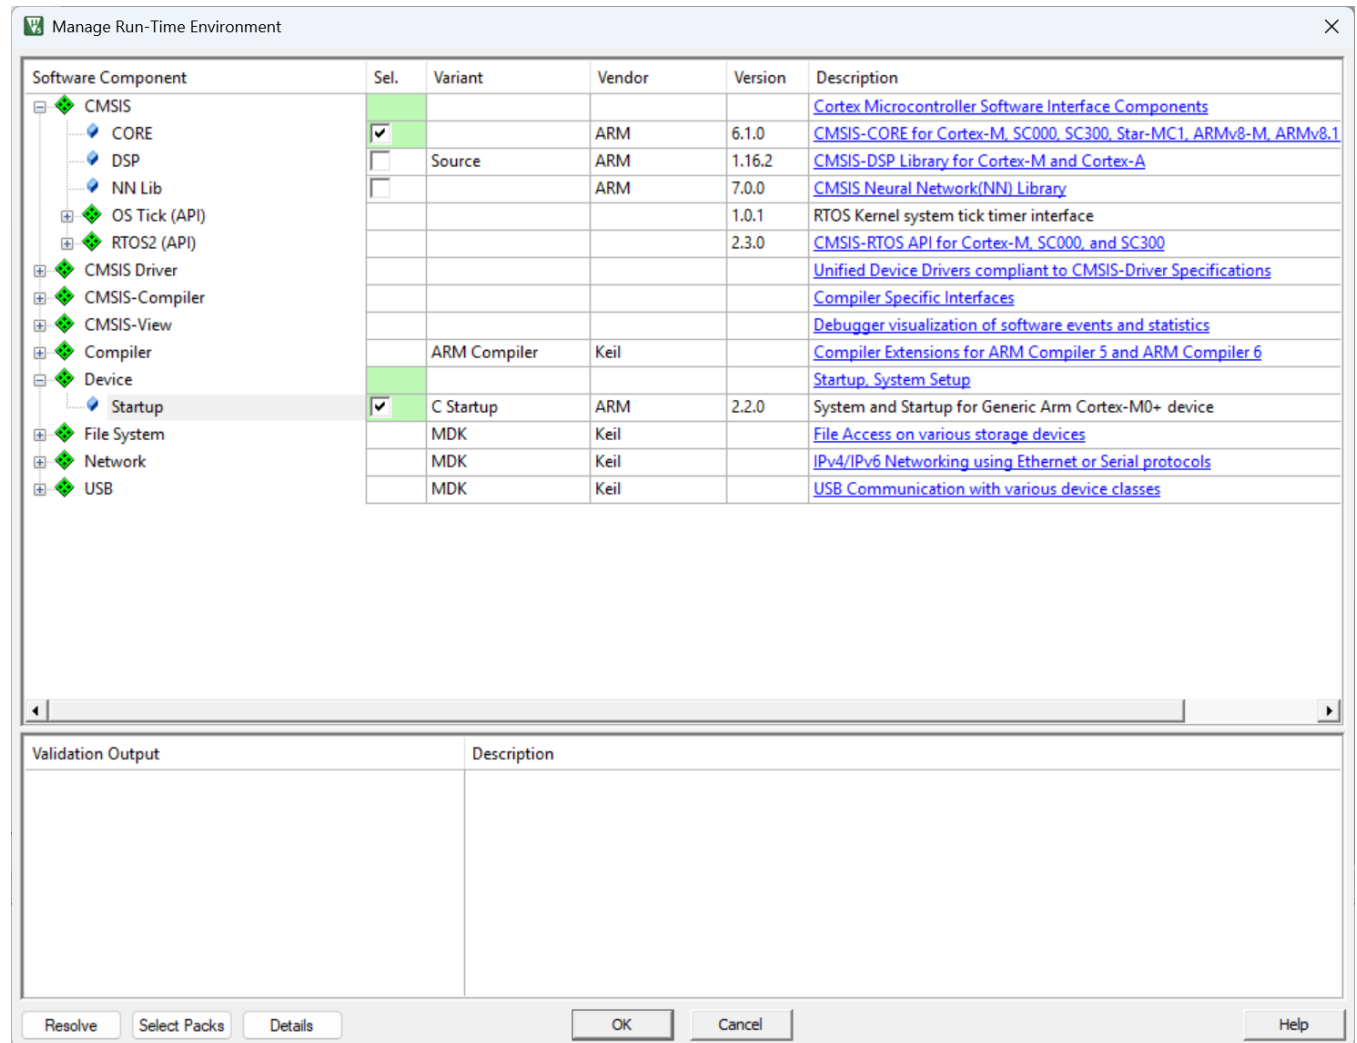

Figure 3: Software Components
6. Click the **Manage Run-Time Environment** symbol  and under **Software Component**, select the appropriate components and click **OK**, see Figure 3.